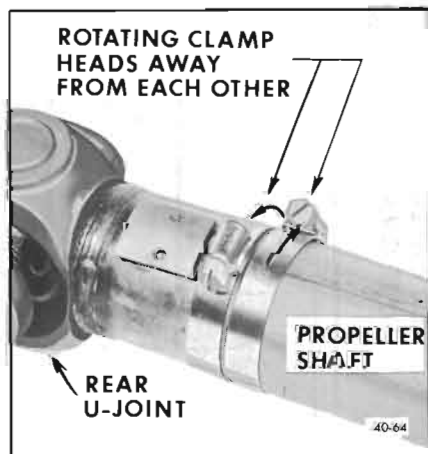

Figure 40-64—Rotating Balance Hose Clamps
4. Run the car through the speed range to 65-70 MPH. If no unbalance is felt, nothing further need be done on the hoist. However, if unbalance still exists, rotate both clamps to the opposite side of the shaft and retighten. Run car again and notice if the unbalance feel is better or worse, return the clamps to the original position. Apparently the combined weight of the two hose clamp heads was excessive, so to reduce this excess, rotate the clamp heads away from each other 45° (one each way from the original position). See Figure 40-64. Run car and note if unbalance has improved.